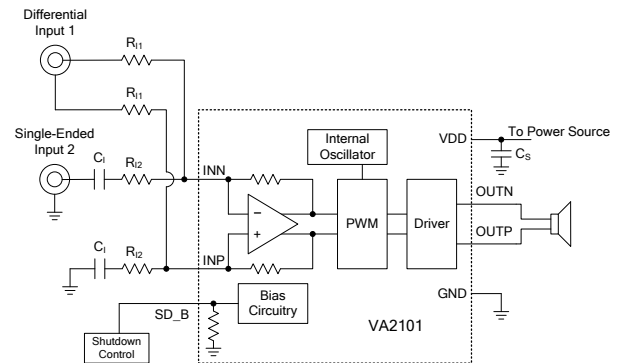

Figure 3. Dual Differential Input Configuration
It is easily to handle multiple audio signal sources with the VA2101CSG9. Figure 3 shows a dual differential input configuration. The gain for each input source can be set independently according to Equation (3) and (4).